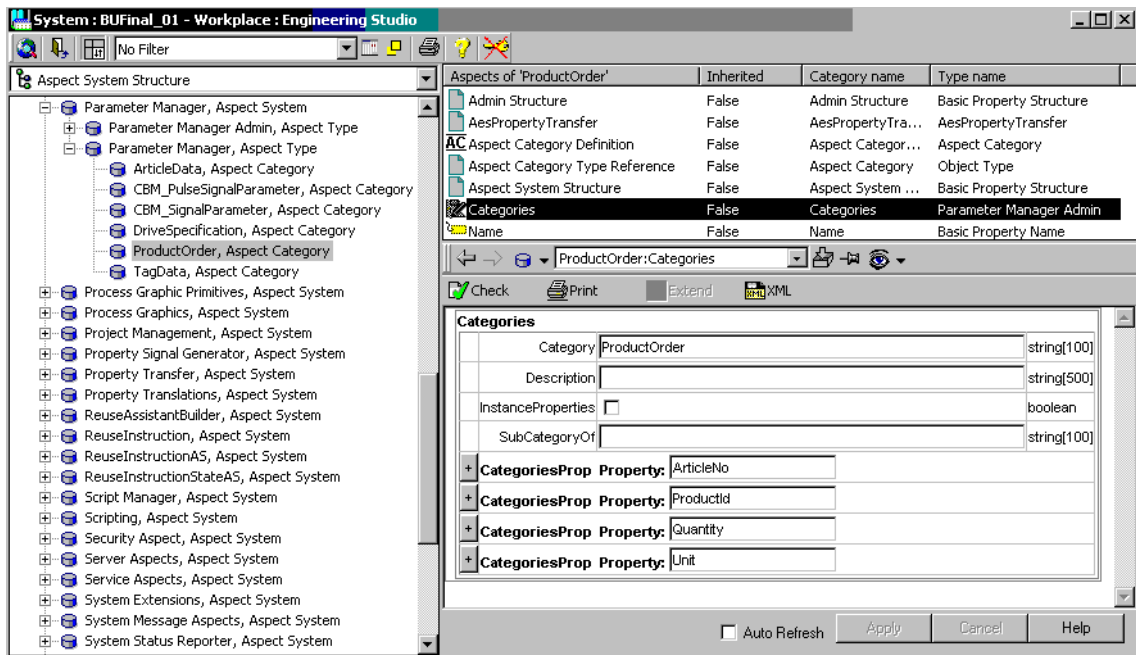

Figure 325. Category ProductOrder as Top Category
- The top category is called ProductOrder, with few simple properties like “ProductId”, “ArticleNo”, “Quantity” and “Unit” (see Figure 325).